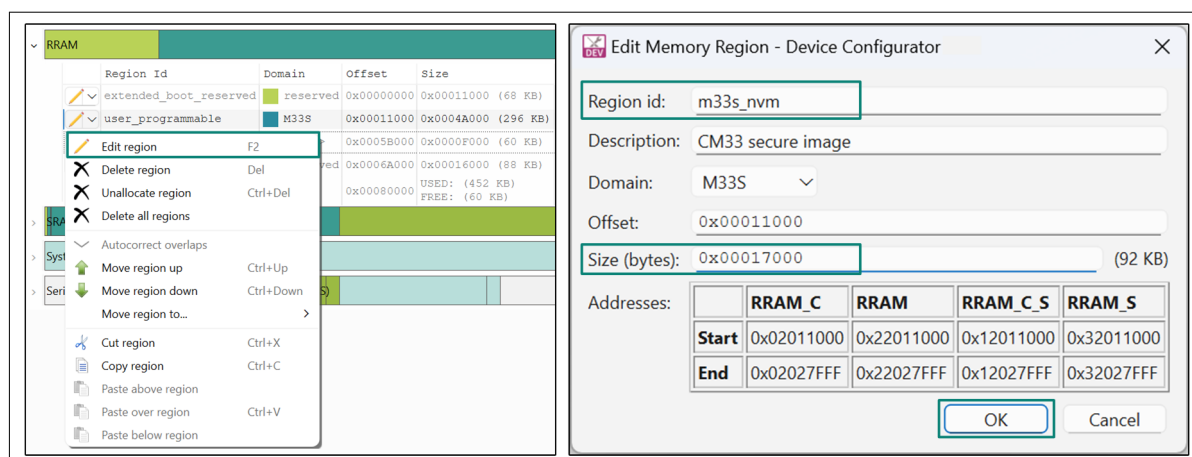

Figure 16 Update the RRAM memory layout
- Under RRAM section, there is a predefined memory region user_programmable in the CM33 secure domain which is already located at default RRAM boot address for the CM33 secure app (0x32011000). We shall modify the name of this memory region as m33s_nvm to place the CM33 secure project and update the size of the memory region as 92 KB (0x00017000) as shown in Figure 16